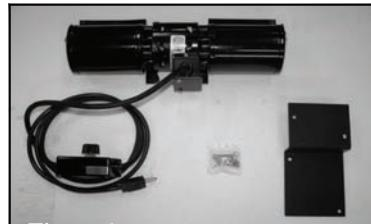

Figure 1
1. Check to see that you received the correct parts with your blower: the fan unit itself, a mount plate, and a hardware package. (figure 1)